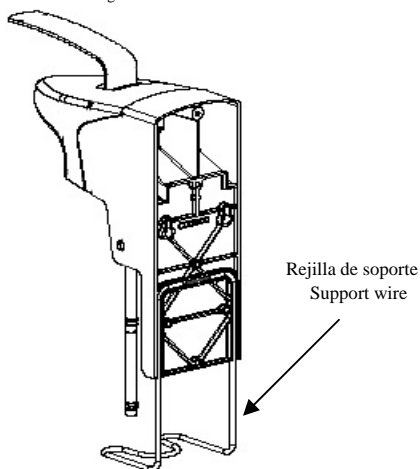

Figure 2
-BOTTLE SUPPORT WIRE MUST BE FITTED TO BACK OF UNIT AND HELD IN PLACE BEFORE SECURING UNIT TO WALL AS SHOWN IN FIGURE 2